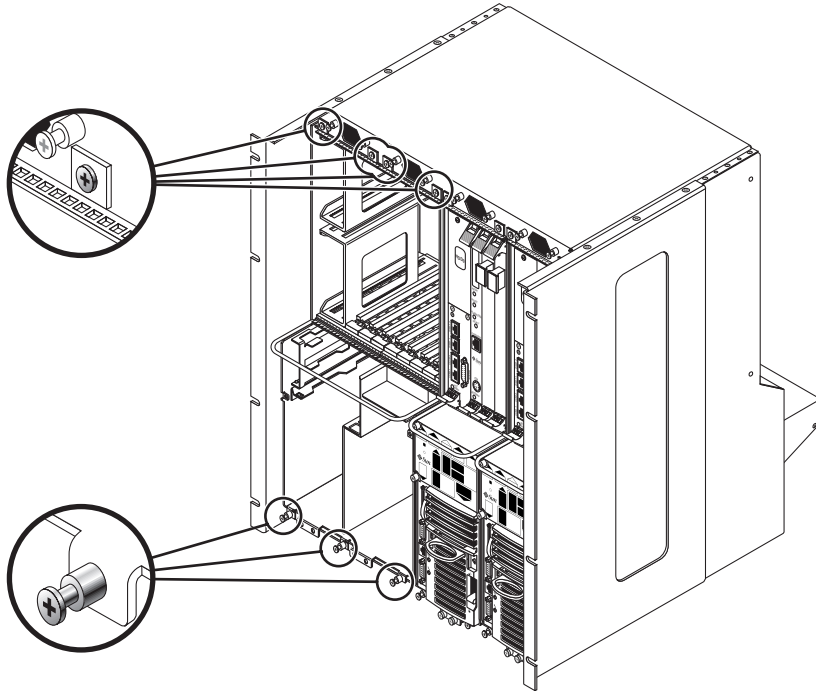

FIGURE 9-2 Loosening the Screws at the Top and Bottom of a Netra CT 810 Server
- If you are removing a Netra CT 810 server, loosen the *four* black captive screws at the top of the server and the *three* black captive screws at the bottom of the server (FIGURE 9-2).
- If you are installing a Netra CT 810 server, tighten the *four* black captives screws at the top of the server and the *three* black captive screws at the bottom of the server (FIGURE 9-2).